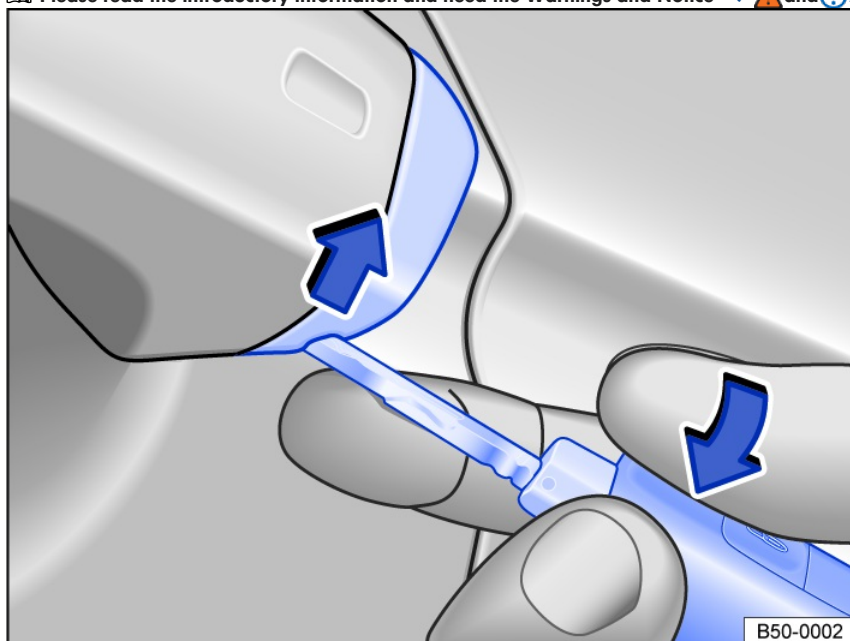

Fig. 58 Driver's door handle: prying off the cap.
- Use the vehicle key to pry the cap off in the direction of the arrow fig. 58.